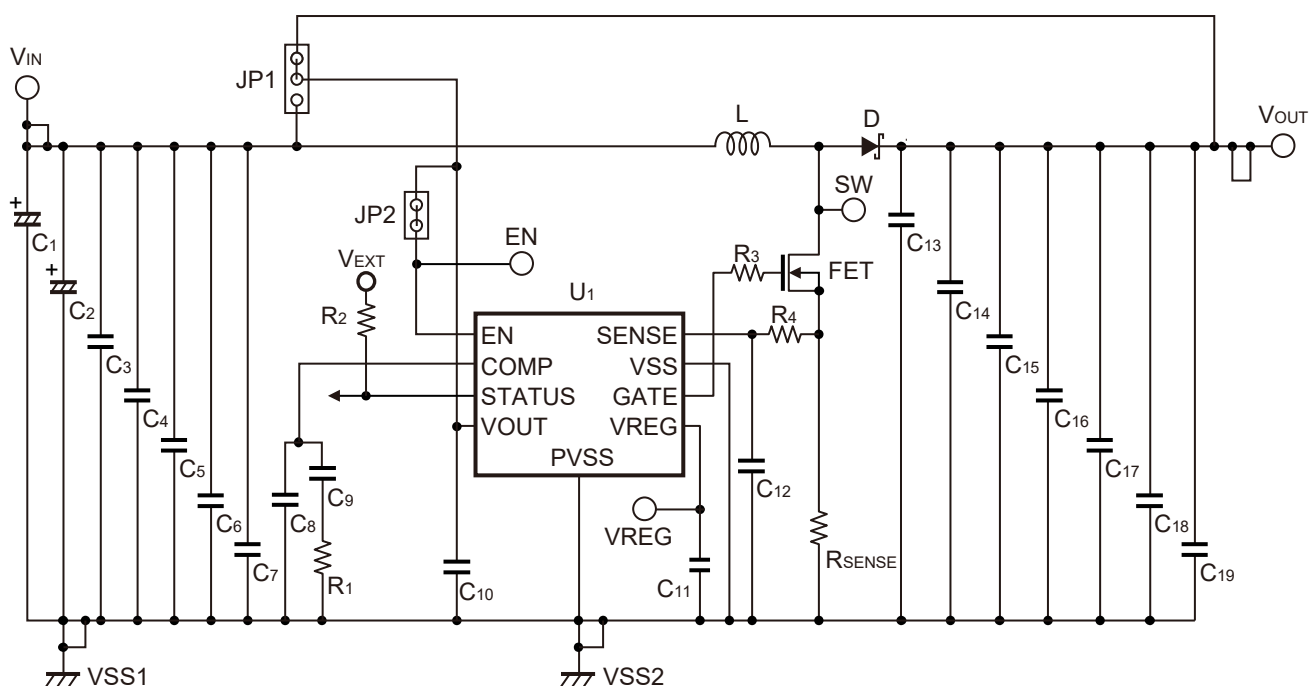
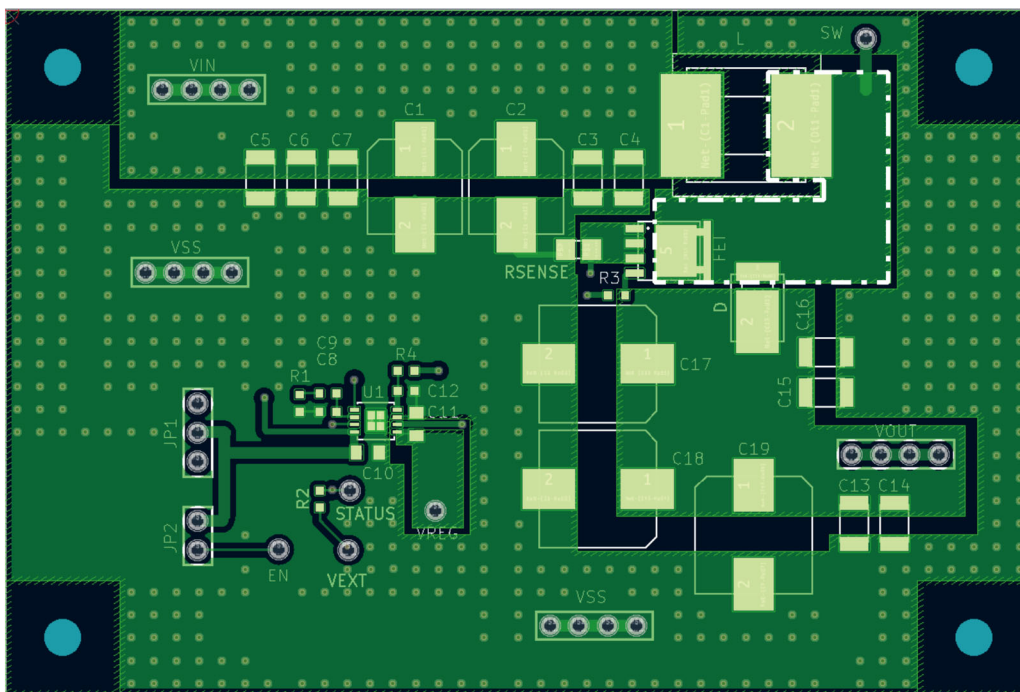
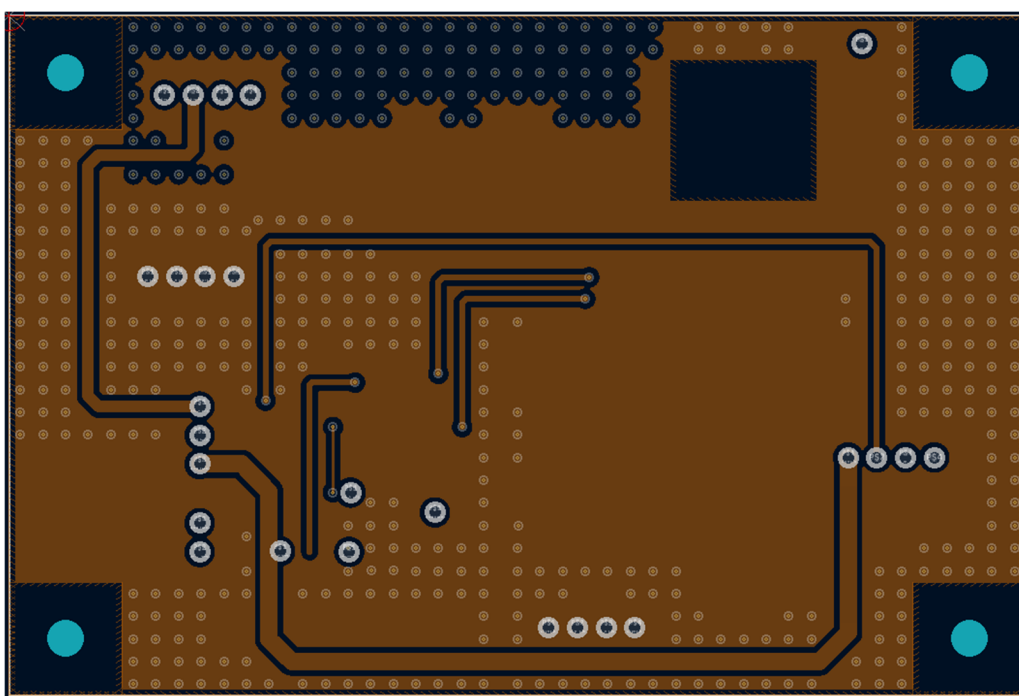

Figure 6
Figure 7 Top Layer (First Layer)
Figure 10 Bottom Layer (Fourth Layer)
Figure 6 shows the circuit diagram of a step-up application created by ABLIC Inc.
Table 5 shows external components used in the connection examples: Figure 6.
The board we have created for the application circuit diagram in **Figure 6** has four layers, which are shown in **Figure 7** to **Figure 10**.
- The SW wiring area (Dashed line area in "**Figure 7 Top Layer (First Layer)**") should be as small as possible to reduce high-frequency radiation noise.
- All copper foil on the back of the inductor (L) should be removed to avoid losses due to eddy currents.